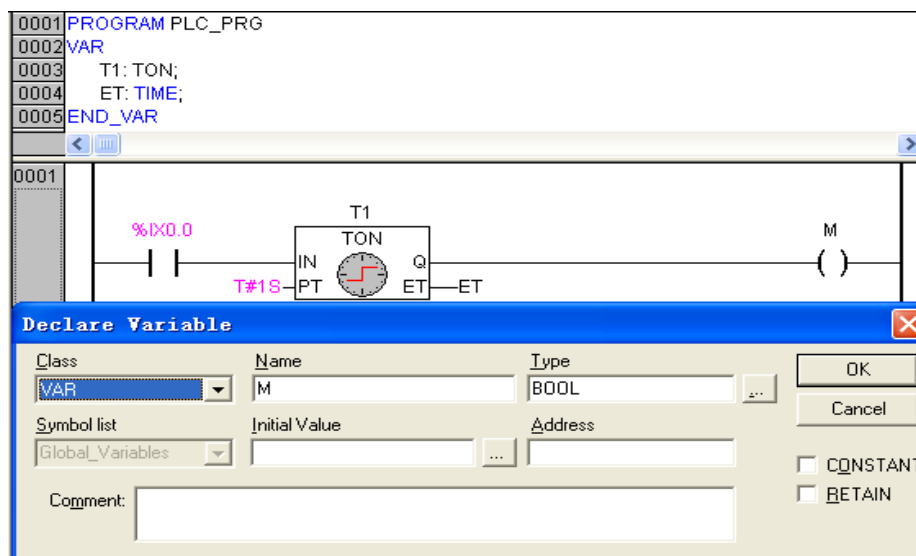

Figure 3-6-8 Programming Step (8)
- Enter “M” in field “???”, and select the “Type” as BOOL, as shown in figure 3-6-8, then click “ok”.